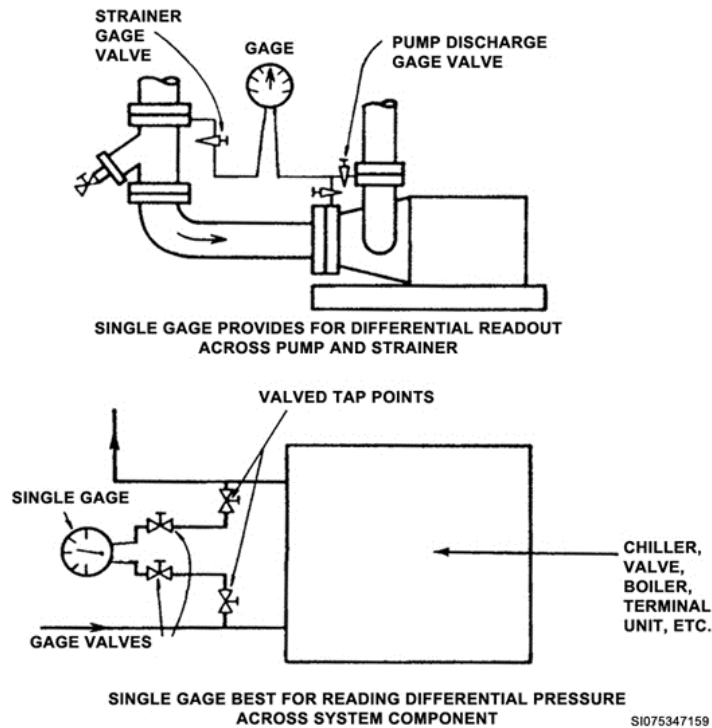

Figure 2-37. Differential pressure reading.
12. Taking pump startup readings	This procedure requires you to act as follows: Read pump static pressure first with the pump off. Start the pump, vent the air, and allow the flow to stabilize. Take initial amp and volt readings. Slowly close the balancing cock in the pump discharge line. Now, read the shutoff discharge and suction pressures and total head. Slowly open the discharge balancing cock and read the discharge and suction pressures at the same time with a differential gauge (fig. 2-37). Consider the pressure at the pump not as a positive indicator of the pump flow, but more as a reflection of the system resistance. If there is a total-flow measuring station in the discharge line, read the flow and compare it with pressure measurements and curves.